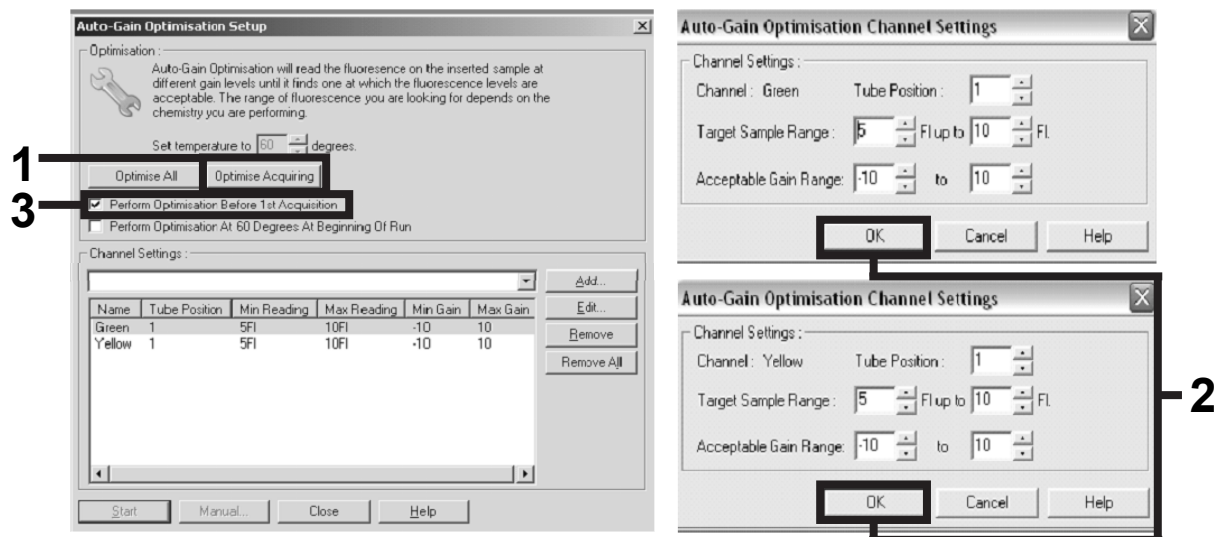

Figure 6. Adjusting the fluorescence channel sensitivity.
14. The detection range of the fluorescence channels has to be determined according to the fluorescence intensities in the PCR tubes. Click "Gain Optimisation" in the "New Run Wizard" dialog box to open the "Auto-Gain Optimisation Setup" dialog box. Click "Optimise Acquiring" (Figure 6), and then click "OK" in the "Auto-Gain Optimisation Channel Settings" dialog boxes for each channel (Green and Yellow, Figure 6). Make sure that the "Perform Optimisation Before 1st Acquisition" box is checked for each channel (Figure 6).